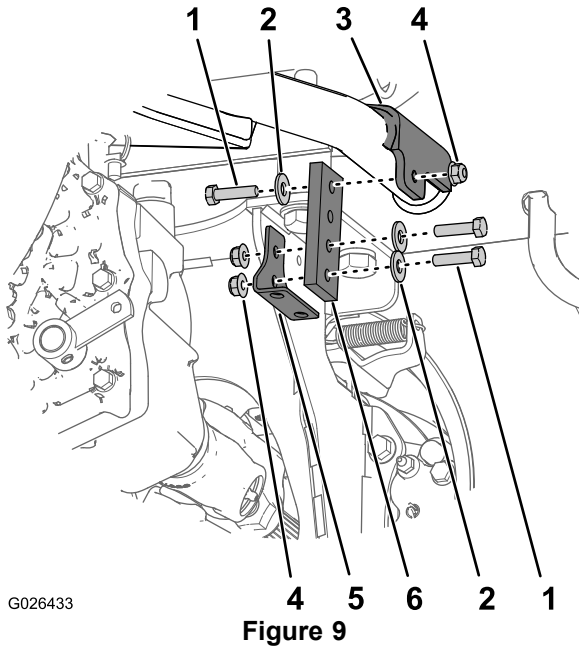

Figure 9
1. Align 2 of the holes in the other exhaust hanger with the holes in the exhaust-pipe bracket (Figure 9).
2. Assemble the exhaust hanger to the exhaust-pipe bracket with 2 bolts (5/16 x 1-1/4 inch), washers, and flanged locknuts (Figure 9).
3. Align the hole at the other end of the exhaust hanger with the hole in the mounting lug on the tank-support tube (Figure 9).
4. Assemble the exhaust hanger to the mounting lug with 2 bolts (5/16 x 1-1/4 inch), washers, and flanged locknuts (Figure 9).